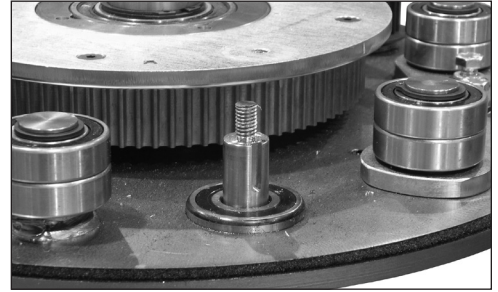

FIG. 6.3
6. Replace shaft (Figure 6.3).
4. Remove satellite shaft (Figure 6.3).